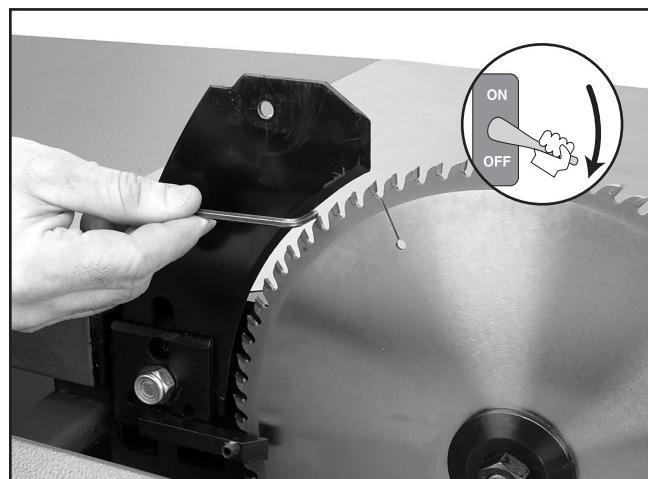

Figure 34. Adjusting the riving knife.
3. Position the riving knife about 3mm or $\frac{1}{8}$ " away from the nearest carbide tooth on the main blade. **Note:** For a quick gauge, use the 3mm hex wrench to find the correct spacing between the blade and the riving knife, as shown in **Figure 34**.